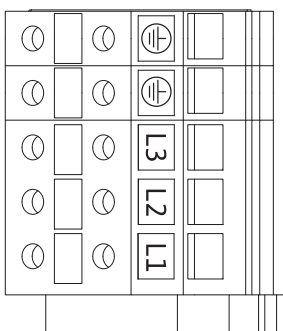

Fig. 26: Power terminals (mains connection terminals)
- Power terminals (mains connection terminals) (Fig. 26)